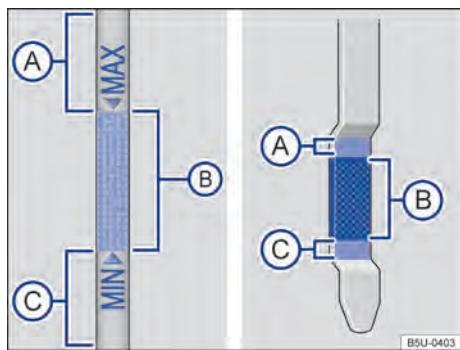
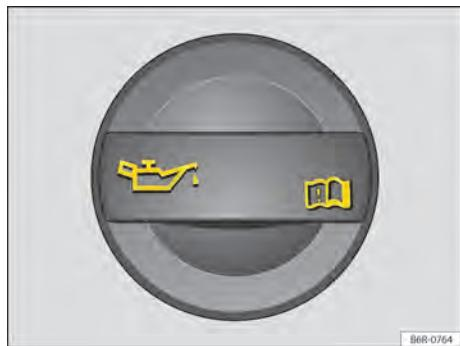

Fig. 188 Oil dipstick with markings.
Fig. 189 On the engine compartment: engine oil opening lid.
4. Identify the engine oil filler cap and oil dipstick. The engine oil filler opening bears the  symbol on the cap → Fig. 189 and the oil dipstick has a coloured handle. If you cannot
5. Pull the dipstick out of the guide tube and wipe it off with a clean cloth → ①.
7. Pull the dipstick out again and read the engine oil level on the dipstick → Fig. 188 as follows:
- ①: **do not** refill oil → ①. Proceed to step 15.
- ②: proper oil level. Refill with oil (approximately 0.5 l). Proceed to step 8 or 15.
- ③: recommended oil **must** be refilled until level reaches region ②. Proceed to step 8.
9. Unscrew the engine oil filler opening cap → Fig. 189.
12. Read the engine oil level from the dipstick again before refilling with a further small quantity of engine oil. Never overfill engine oil → ①.
13. After the refilling procedure, the engine oil level must be at least in the centre of area → Fig. 188 ②, but never above area ① → ①.
- Do not start the engine when the engine oil level is above the range → Fig. 188 A. Seek professional assistance immediately. The catalytic converter and the engine could otherwise be damaged!
The engine oil level must never exceed the → Fig. 188 A region, otherwise, the oil may be aspirated by the crankcase ventilation and discharged into the atmosphere by the exhaust system. Additionally, oil may be combusted inside the catalytic converter, damaging it.
When the engine is working hard, the oil level must be kept within the → Fig. 188 A area – for instance during long motorway cruising in summer or climbing mountain passes.